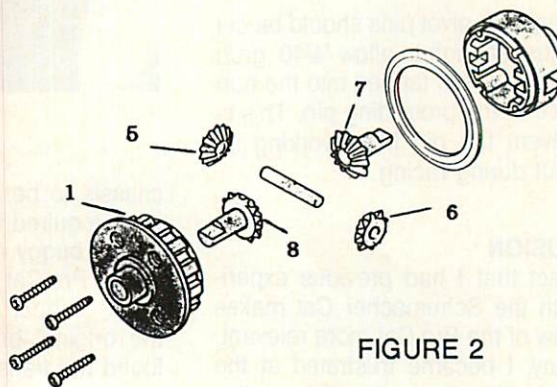
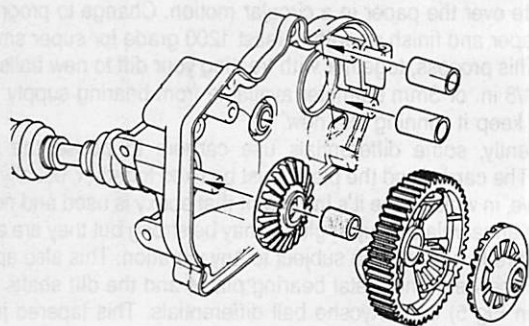

FIGURE 2
FIGURE 3
Now we know how a differential works in the big world we can see how similar our model diffs are. Figure 2 shows a Kyosho front differential. This is typical of gear diffs in the model world and is a simplified version of the planetary gear. The crown wheel is replaced by pulley (1) which carries the belt from the rear diff, but otherwise we still
Tamiya have another way of doing it. Figure 3 shows a Fox differential which is typical for most Tamiya buggies. Again, the principal is the same, it's just the arrangement that differs. In this case the bevel pinions are actually inside the big crown wheel with all three of them free to rotate on their own little axle.
The conventional gear diff is mostly trouble-free and almost maintenance-free. After many runs the plastic bearings are usually the first to go. Sometimes washers or shims can be used as a repair otherwise it's a case of stiff diff mate! Silicone based grease is the usual lubricant but whatever you use dirt must be kept away to prevent it turning into a grinding paste. The sealed type diff as in fig 2 is no problem in this respect but the Tamiya type (fig 3) is exposed in the gearbox. In a buggy such as the Fox one must be careful to stop dirt entering the gearbox when the motor is changed. Note that it is possible to get some limited slip action from a gear diff by using thicker grease on the gears — but don't expect too much.